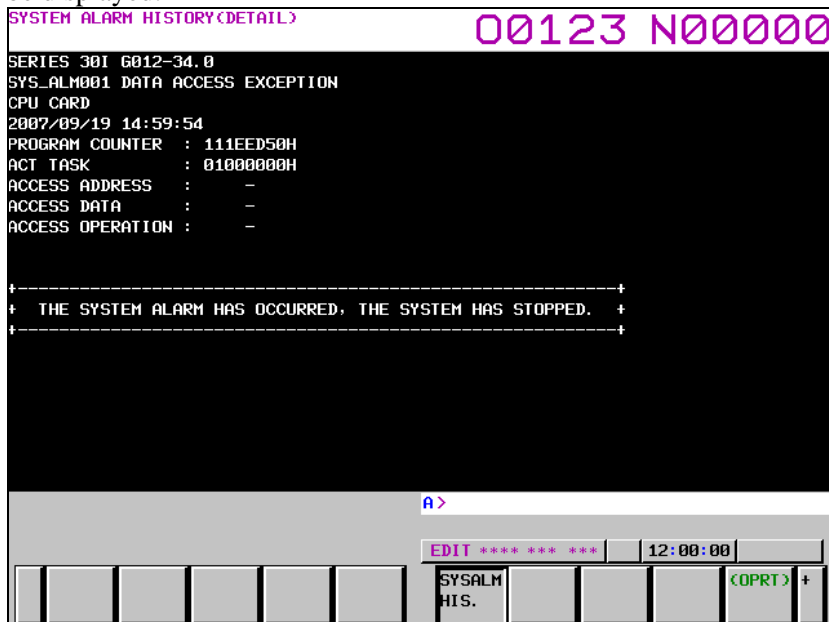

Fig. 1.11 (c) System alarm history detail screen
- 4 The system alarm history list screen as shown in Fig. 1.11 (b) appears.